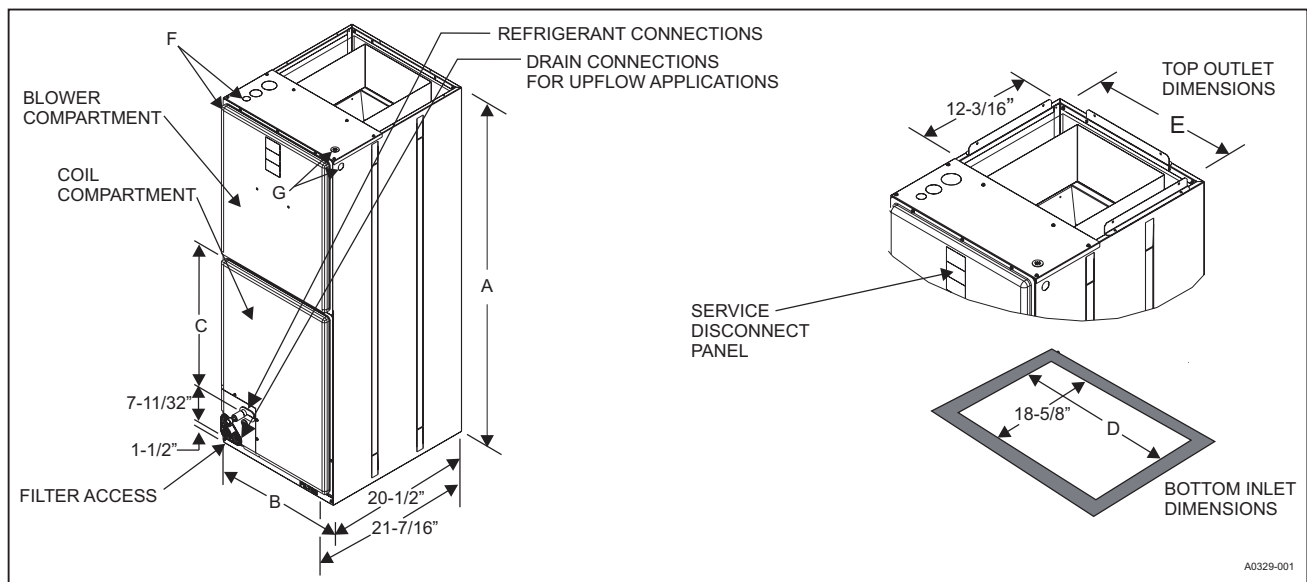

Figure 3. Dimensions and Duct Connection Dimensions
6. The unit rating plate displays the air handler model number. The unit dimensions for the supply air plenum are provided in Figure 3 and Table 1 of this Instruction Manual. The plenum must be installed according to the instructions.
Base the size of the unit on an acceptable heat loss or gain calculation for the structure. Use the ACCA Manual J or other approved methods. Reference Figure 3 and Table 1.